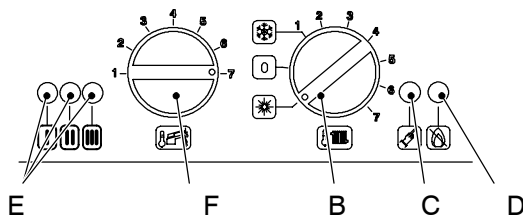

Fig. 11.7
- 22 Set the knob *F* to the maximum position as illustrated in Fig. 11.7